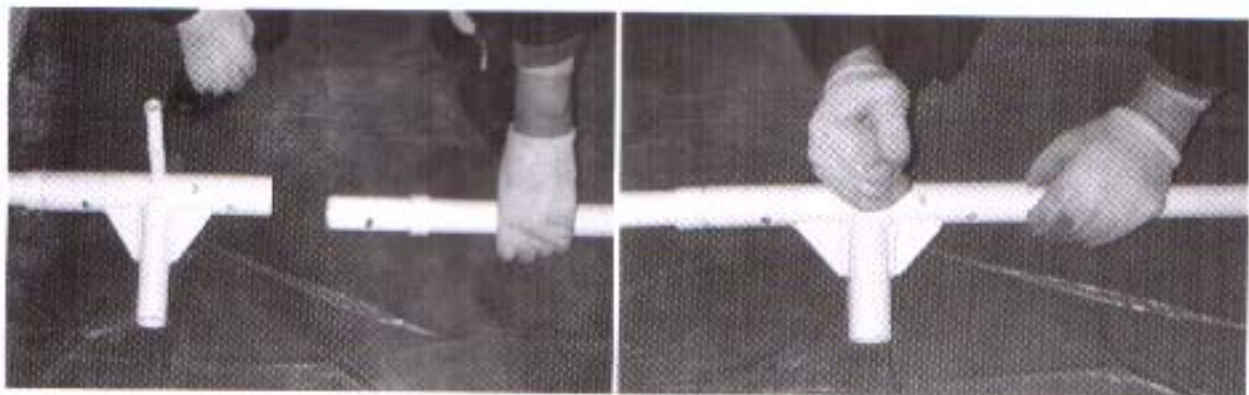

Figure 2: Slip-fit Installation
2. **Note that poles are connected with joint fitting and fastened by Slip-fit as shown in Figure 2.** Because of the weight of the tent, care should be taken to connect all parts properly. For safety, always wear gloves when connecting poles and fittings.